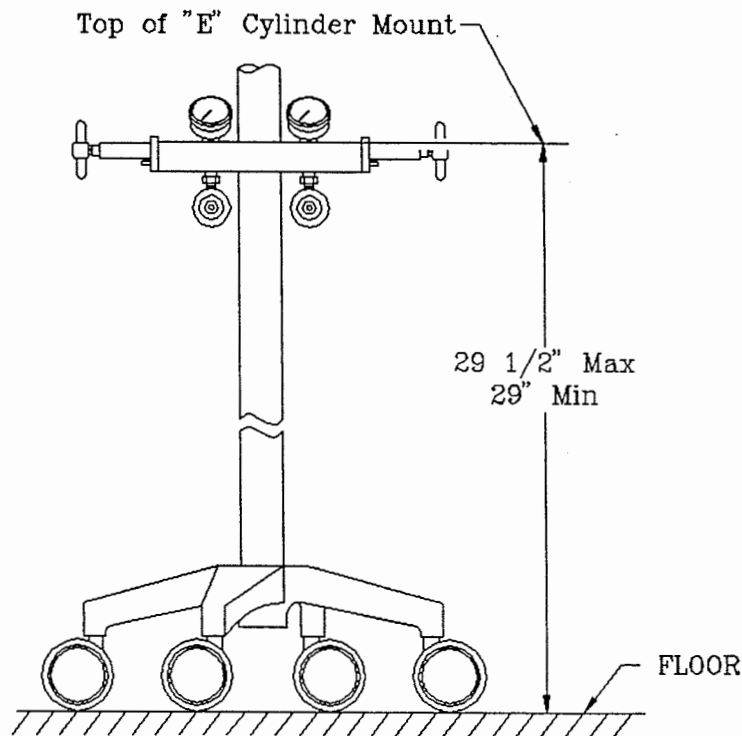

Figure 15
- D) Cylinder mounts must be mounted a maximum of 29 1/2" to a minimum of 29" from the floor. See Figure 15.